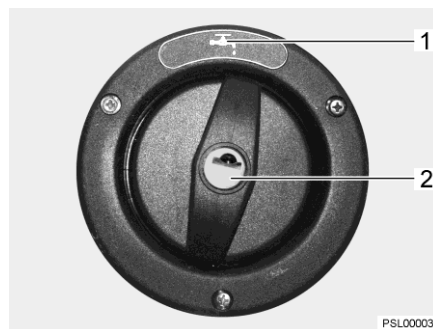

Fig. 115 Cap for the drinking water filler neck
The drinking water filler neck is indicated by the symbol "☞" (Fig. 115,1). The cap is opened and closed using the key for the external flap locks.
- Insert key into locking cylinder (Fig. 115,2) and turn a quarter turn in an anticlockwise direction.
- Open drinking water filler neck (Fig. 115).